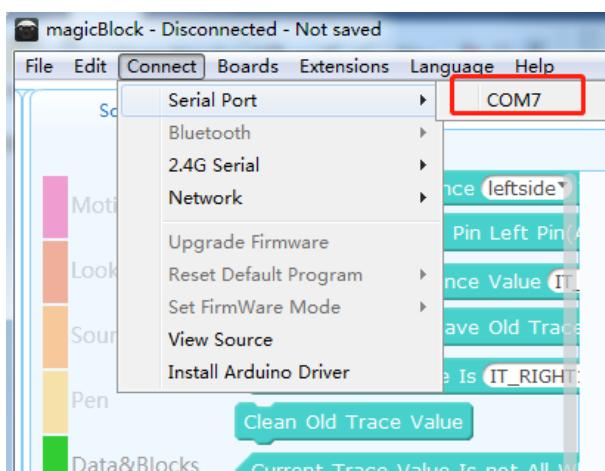
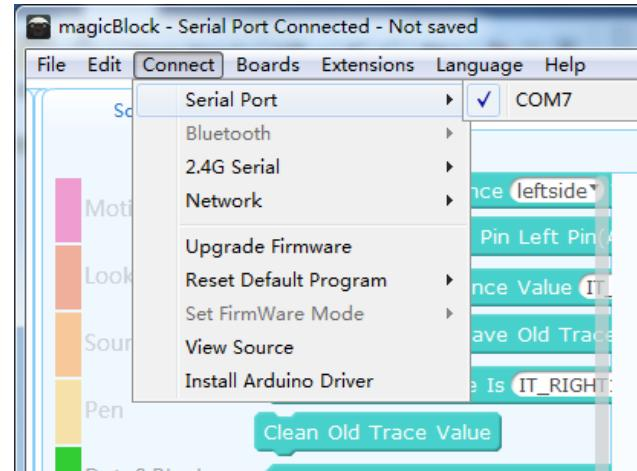

Figure 2-11
Figure 2-12
- 3) Click on "Connect to COM7 (different computers have different number of COM port)", as shown in Figure 2-11. After the correct connection, the software will have the "serial port has been connected" prompt at the top, at which time MagicBlock and MotorDriver Board successfully connected, as shown in Figure 2-12.